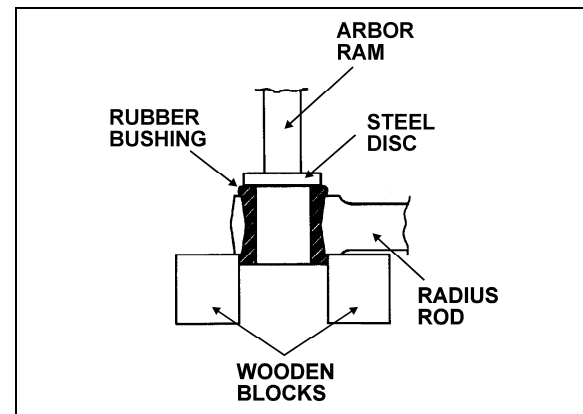

FIGURE 6: RADIUS ROD BUSHING REMOVAL 16011
1. Safely support the radius rod as shown in figure 6.
2. Place a flat steel disc, slightly smaller than the outside diameter of the bushing (Fig. 6).